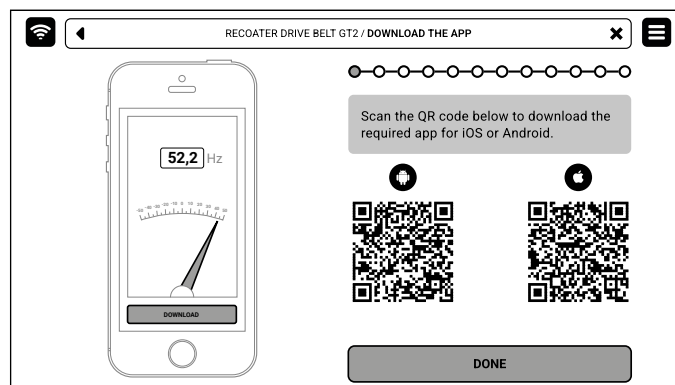

Fig. 13.75 Download the required app to your smart device.
4. Download the recommended app to your smart device by scanning the respective QR code (fig. 13.75).